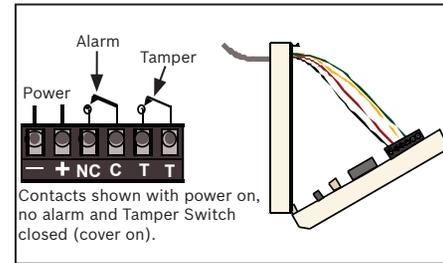

Figure 4.1: Wiring the detector
- Wire the detector as shown in *Figure 4.1*. Leave extra wire so the case can be opened for testing.